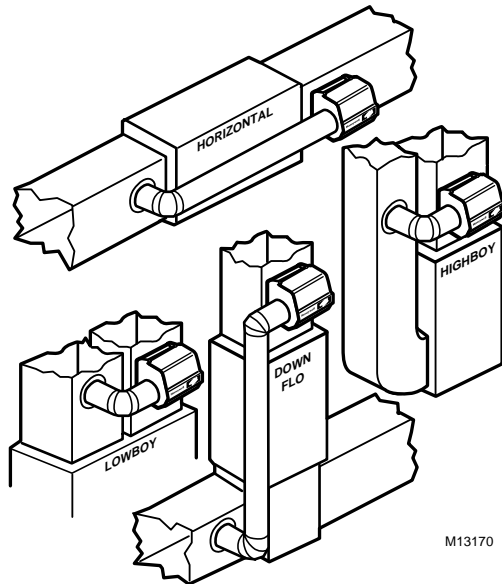

Fig. 2. Typical humidifier installation locations.
1. Determine the best location for the humidifier and draw a level line on the duct. See Fig. 2 for humidifier components.